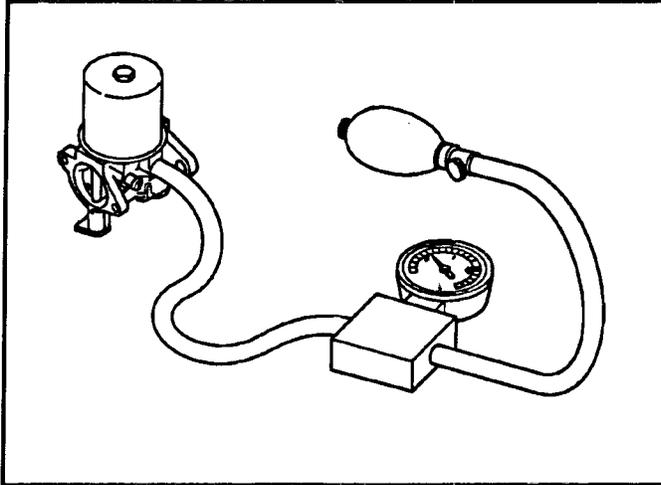

Figure 17
2. Connect a pressure tester to the inlet fitting on the carburetor. See Figure 17.